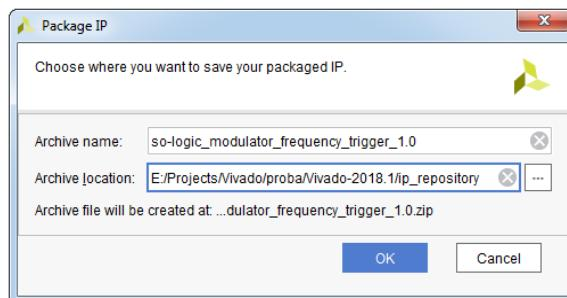

Figure 12.22: Package IP dialog box with selected new archive location
25. In the **Package IP** dialog box, change the **Archive location** to the new **ip_repository** folder, see Figure 12.22.